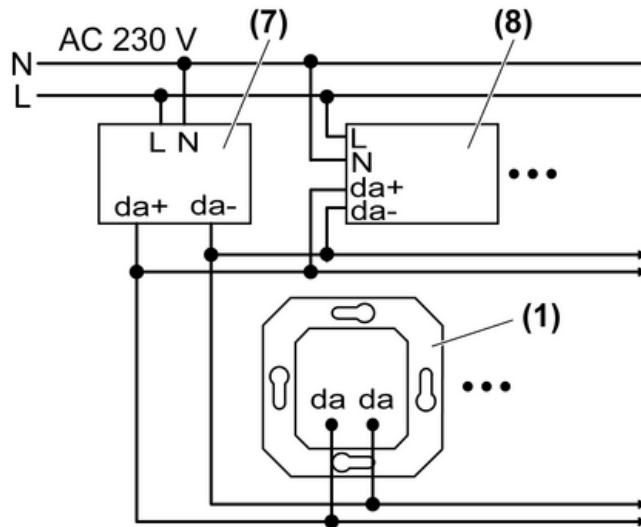

Figure 2
(1) DALI potentiometer
(7) DALI power supply
(8) DALI subscriber e. g. DALI electrical ballast
- Connect the DALI potentiometer and DALI electrical ballast according to the connection diagram (Figure 2). In so doing, observe the data of the electrical ballast manufacturer.